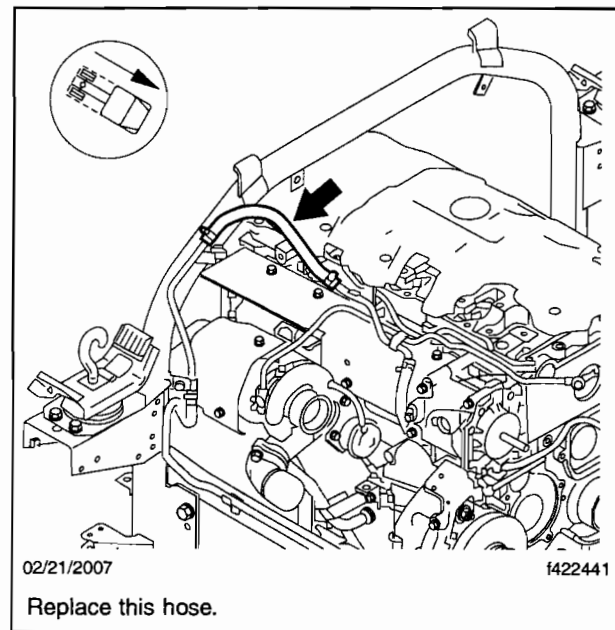

Fig. 1, Vacuum Hose Replacement
4. Locate the vacuum hose. See **Fig. 1**.